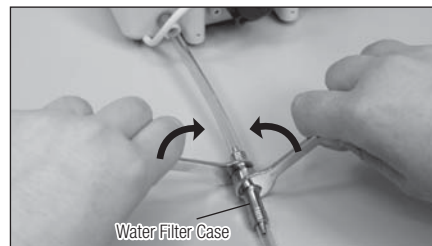

Fig. 33
- 1) Close the water valve of the dental unit to which Varios 750 or Varios 750 LUX is connected. Mount two Spanner Wrenches (5X8) as shown in Fig. 33, and turn in the directions shown. When water tube is getting twisted by this, relieve the twist by turning it, as its end on the Control Unit side is free to turn.